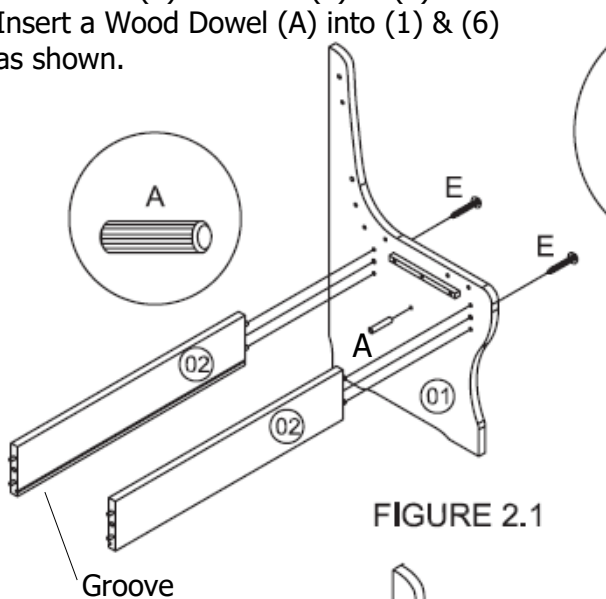

FIGURE 2.1
- Refer to Figure 2.1 - Position a Middle Leg (1) as shown and attach Front & Back Rail (2) for Single Bench to (1) via wood dowels on (2). Check that the groove on each rail is at the bottom and facing inward towards each other.
- Use Screw (E) to fasten (2) to (1).
- Insert a Wood Dowel (A) into (1) & (6) as shown.